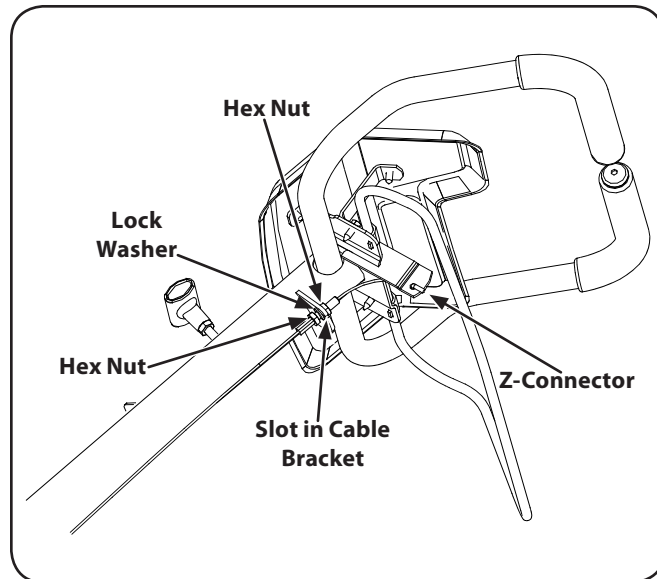

Figure 3-8
4. Pull the cable upwards to obtain slack and hook the Z-connector at the end of the cable into the bracket on the clutch control (beneath the handle panel). Tighten the nut against the cable bracket. See Fig. 3-8.
3. If the belt turns with the machine in neutral, adjust it by moving the hex nut below the cable bracket down a few turns. Tighten the upper hex nut against the bracket. See Fig. 3-8.